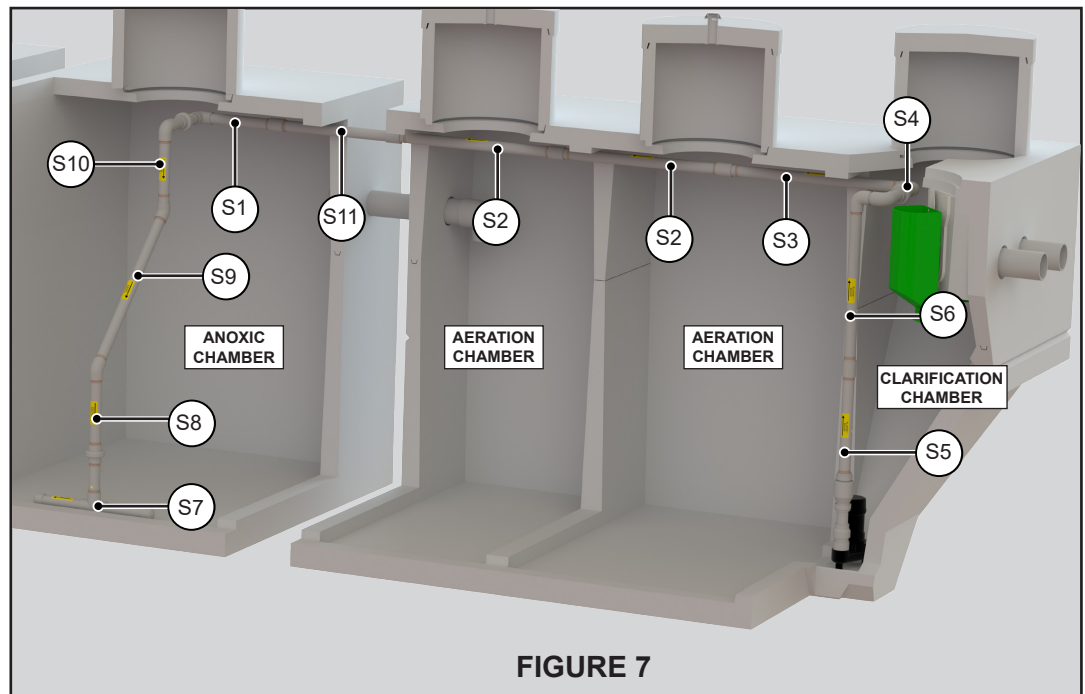

FIGURE 7
1. Thread subassembly S5 into the pump discharge as shown in Figure 7.
2. Solvent weld the coupling on subassembly S5 to subassembly S6. See Figure 7.
4. Use the discharge plumbing assembly to lower the recirculation pump into the clarification chamber until the pump rests on the floor of the hopper as shown in Figure 7. Attach subassembly S4 to subassembly S6 at the union. Securely tighten the union by hand.
5. Attach subassembly S7 to subassembly S8 at union as shown in Figure 7. Securely tighten union by hand.
6. Solvent weld subassembly S8 to subassembly S9 as shown in Figure 7. Insure yellow arrows are aligned.
7. Solvent weld subassembly S9 to subassembly S10 as shown in Figure 7. Insure green arrows are aligned.
8. Bend mixing bar assembly at flexible tubing and lower into anoxic chamber until mixing bar is positioned as shown in Figure 7. Attach subassembly S10 to subassembly S1 at union. Securely tighten union by hand.